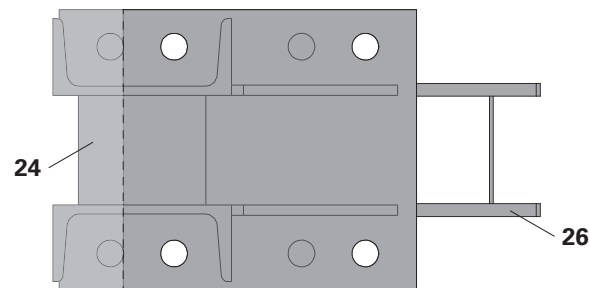

Fig. C4.09
- ➔ Pay close attention to the assembly position! (Fig. C4.09 – C4.11)